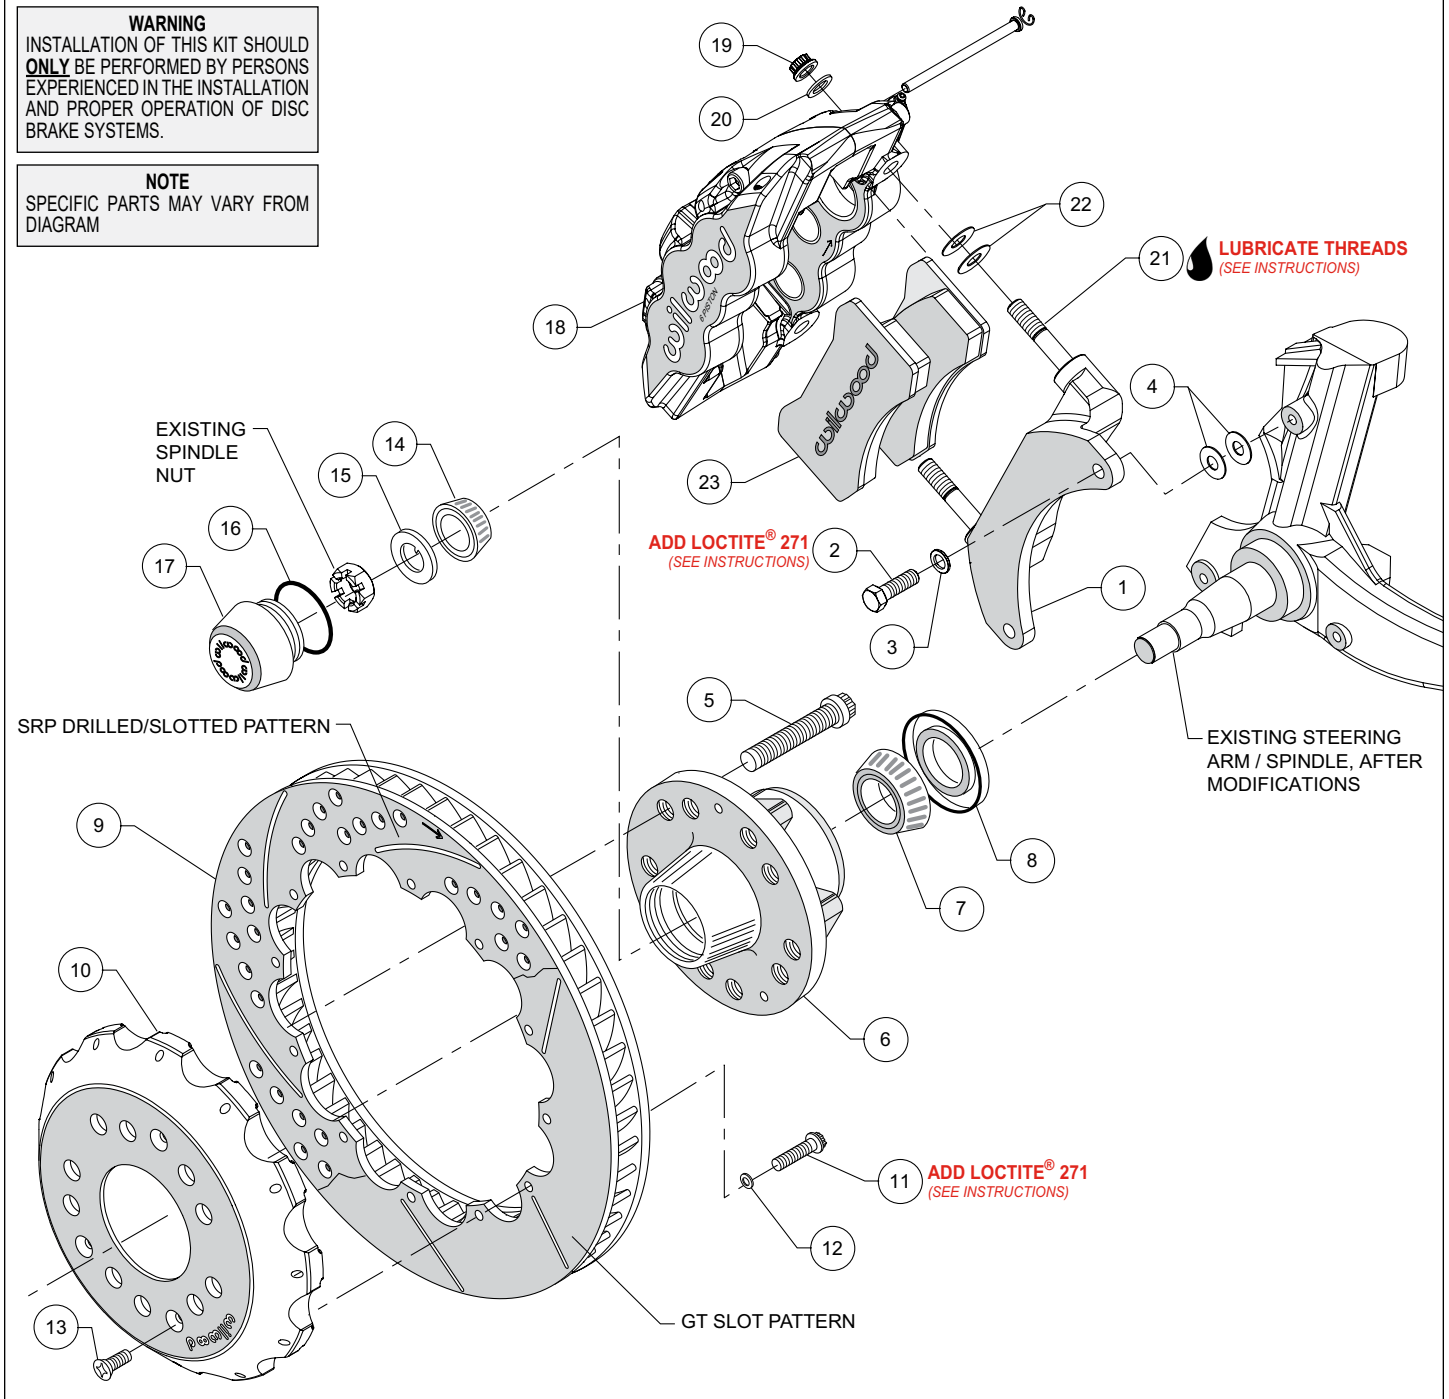
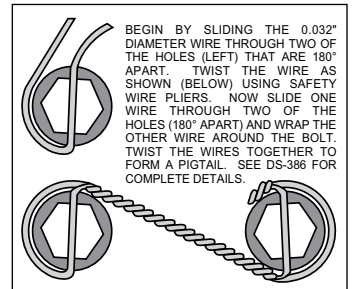

Figure 2. Typical Installation Configuration
Figure 4. Safety Wire Diagram
NOTE: Numbers in parenthesis refer to the parts list and Figure 2 on the preceding pages.
- The caliper mount bracket (1) should initially be installed with clean, dry threads on the mounting bolts. Orient the bracket as shown in Figure 2 and Photo 1, and install using bolts (2) and washers (3). Initially place two .035" thick shims (4) on each bolt between the bracket and upright, Figure 2. Temporarily tighten the mounting bolts. **NOTE:** *The bracket must fit squarely against the mounting points on the spindle.* Inspect for interference from casting irregularities, machining ridges, burrs, etc. Later, after the caliper alignment has been checked, the mount bolts will be secured using red *Loctite*® 271.
- Install wheel studs (5) into the hub (6), Photo 2. Torque to 77 ft-lb. **NOTE:** *There are two five lug patterns in the hub (5 x 4.50 and 5 x 4.75).* Ensure the correct hub stud pattern is being used to fit the wheel application.
- Pack the large inner bearing cone (7) with high temperature disc brake bearing grease (available from your local auto parts store) and install into the backside of the hub (6), Photo 3.
- Install the grease seal (8) by pressing into the backside of the hub (6), flush with the end of the hub, Photo 3.
- Orient the rotor (9) and the hat (10) as shown in Figure 2 and Photo 4. Attach rotor to hat using bolts (11) and washers (12). Apply red *Loctite*® 271 to the bolt threads and torque to 155 **in-lb** using a criss-cross pattern. For an added measure of security, the bolts may be safety wired using standard 0.032 inch diameter stainless steel safety wire as shown in Figure 4. Refer to Wilwood's data sheet DS-386 (available at www.wilwood.com/Pdf/DataSheets/ds386.pdf) for complete safety wire installation instructions.
- Pack the small outer bearing cone (14) with high temperature disc brake bearing grease and install into hub (6). Slide the hub assembly onto the spindle. Secure using spindle washer (15) and OEM spindle nut, Photo 5. Adjust bearings per OEM specifications. Install saved OEM nut lock (if any) and a new cotter pin (not included).
- Screw dust cap (17) into hub (6), Photo 6. Friction created by the o-ring (16) on the dust cap keeps it from unscrewing. **NOTE:** *The O.D. of the existing OEM spindle washer may be larger than the I.D. of the dust cap not allowing it to seat against the hub face. Therefore, use the spindle washer (15) supplied with the kit instead of the OEM washer.*
- Slide the hat/rotor assembly (10 and 9) onto the hub (6) taking care to align the small countersunk holes in the hat (10) with the small threaded holes in the hub. **NOTE:** *The hat must fit flush against the hub face or excessive rotor run out may result.* Install three flat head screws (13) through the small holes in the hat, Photo 6, and torque to 85 **in-lb**.
• **NOTE:** This kit contains distinct right and left hand calipers that must be mounted in a specific direction, as described below. Lubricate the caliper mounting studs (21) with lightweight oil. Initially place two .030" thick shims (22) on each stud between the caliper and the bracket, as shown in Figure 2 and Photo 7. Mount the caliper (18) onto the bracket (1) using lock nuts (19) and washers (20), Figure 2. Ensure that the caliper is mounted so the largest pistons are at the rotor exit end of the caliper, in relation to the direction of rotor rotation. Temporarily tighten the lock nuts and view the rotor through the top opening of the caliper. The rotor should be centered in the caliper, Photo 8. If not, adjust by adding or subtracting shims (4) between the bracket and the upright. Always use the same amount of shims on each of the two mounting bolts. Once the caliper alignment is correct, remove the bracket mounting bolts (2) one at a time, apply red *Loctite*® 271 to the threads, and torque to 40 ft-lbs.
• Remove the caliper (18) then remove the two pad retaining pins from the caliper by carefully popping out the pin retaining clips and sliding out the pins. Insert the brake pads (23) into the caliper from the bottom, Figure 2 and Photo 9. With the friction material facing the rotor, secure the brake pads in place with the pad retaining pins and clips, Photo 10. Reinstall the caliper onto the caliper mounting bracket and temporarily tighten the lock nuts (19). Check that the top of the brake pad is flush with the outside diameter of the rotor, Photo 11. If not, adjust by adding or subtracting shims (22) between the caliper (18) and the bracket (1). After the caliper pad height is set, torque the caliper lock nuts (19) to 47 ft-lb.